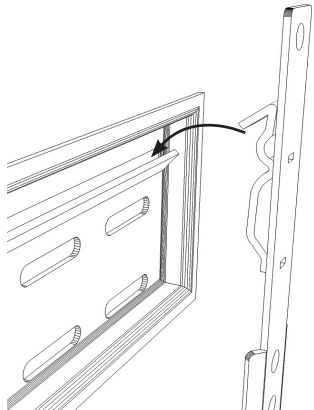

Figure 7
- a. Carefully lift the television and place arm hooks over and onto angled lip in Wall Plate (Figure 7). Do not release the television until it is completely connected to the Wall Plate.